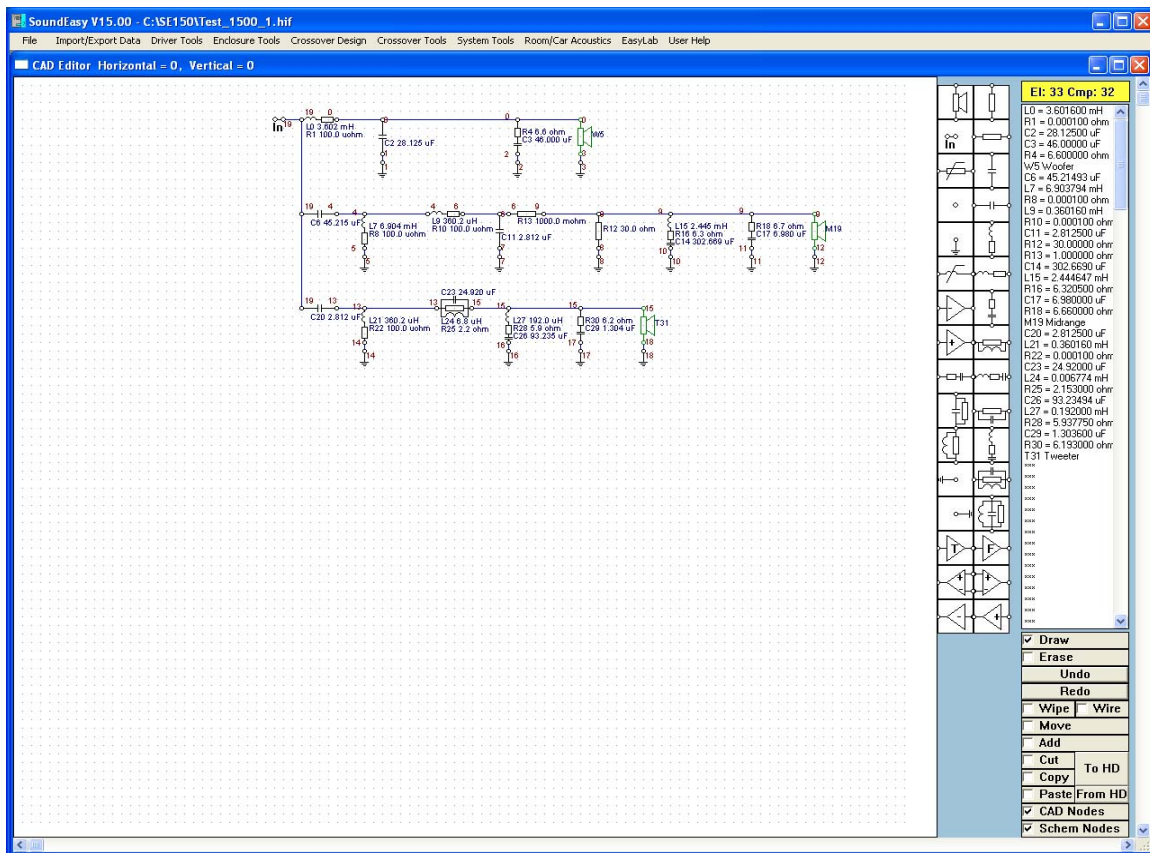

Figure 13.4. Here is our crossover to be optimized.
1. In the first step of optimization, we will concentrate on the low-pass section of the midrange band-pass filter: $L9 = 0.36016$ mH and $C11 = 2.8125$ uF - please refer to Figure 13.4
2. In the second stage of optimization we will concentrate on the high-pass section of the tweeter filter: $C20 = 2.8125$ uF and $L21 = 0.36016$ mH - please refer to Figure 13.4.